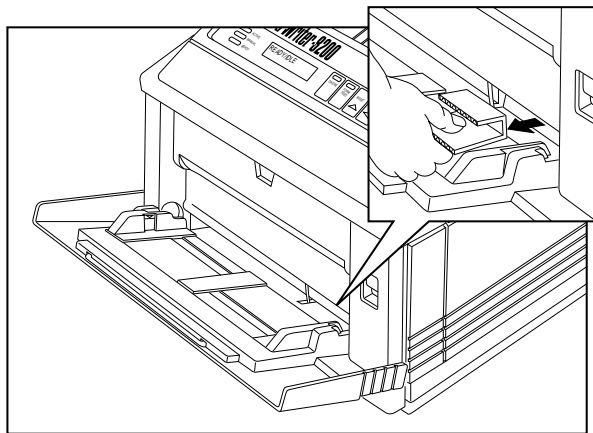

Fig. 2.4 Remove the Shipping Cardboard
6. Locate the shipping cardboard in the lower right corner of the front cover. Then, pull it straight out to remove it (fig. 2.4).